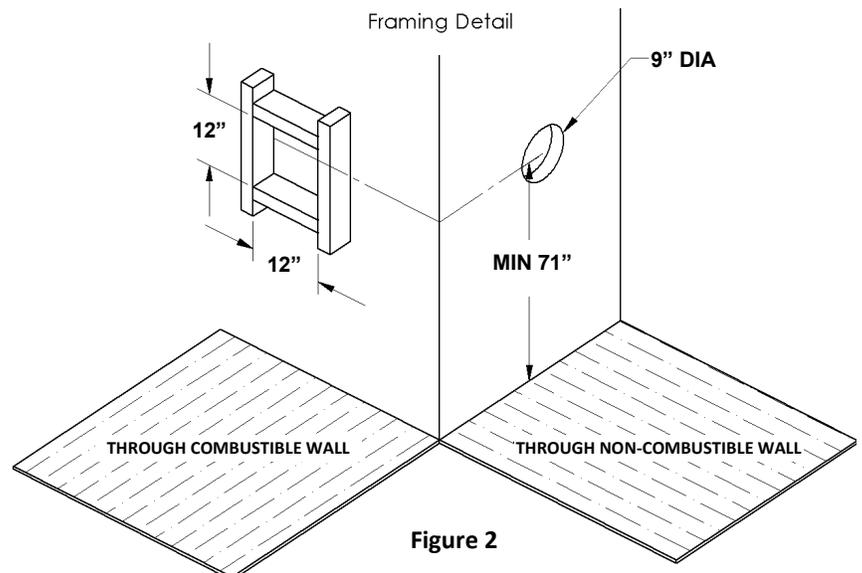

Figure 2
- To determine the minimum distance from the bottom of fireplace to center of vent see the Framing Your Gas Fireplace section. Cut a hole through the wall allowing for a 12" x 12" (inside diameter) in combustible walls for wall thimble or a 9" diameter hole in a non-combustible wall (See Figure 2).